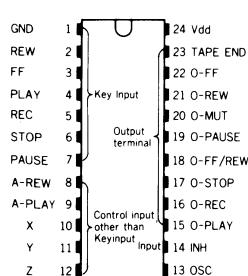

Fig. 2-2
- A circuit preventing troubles caused by multiple-pushing of input keys is provided in the LSI. (Refer to Table Fig. 2-2.)